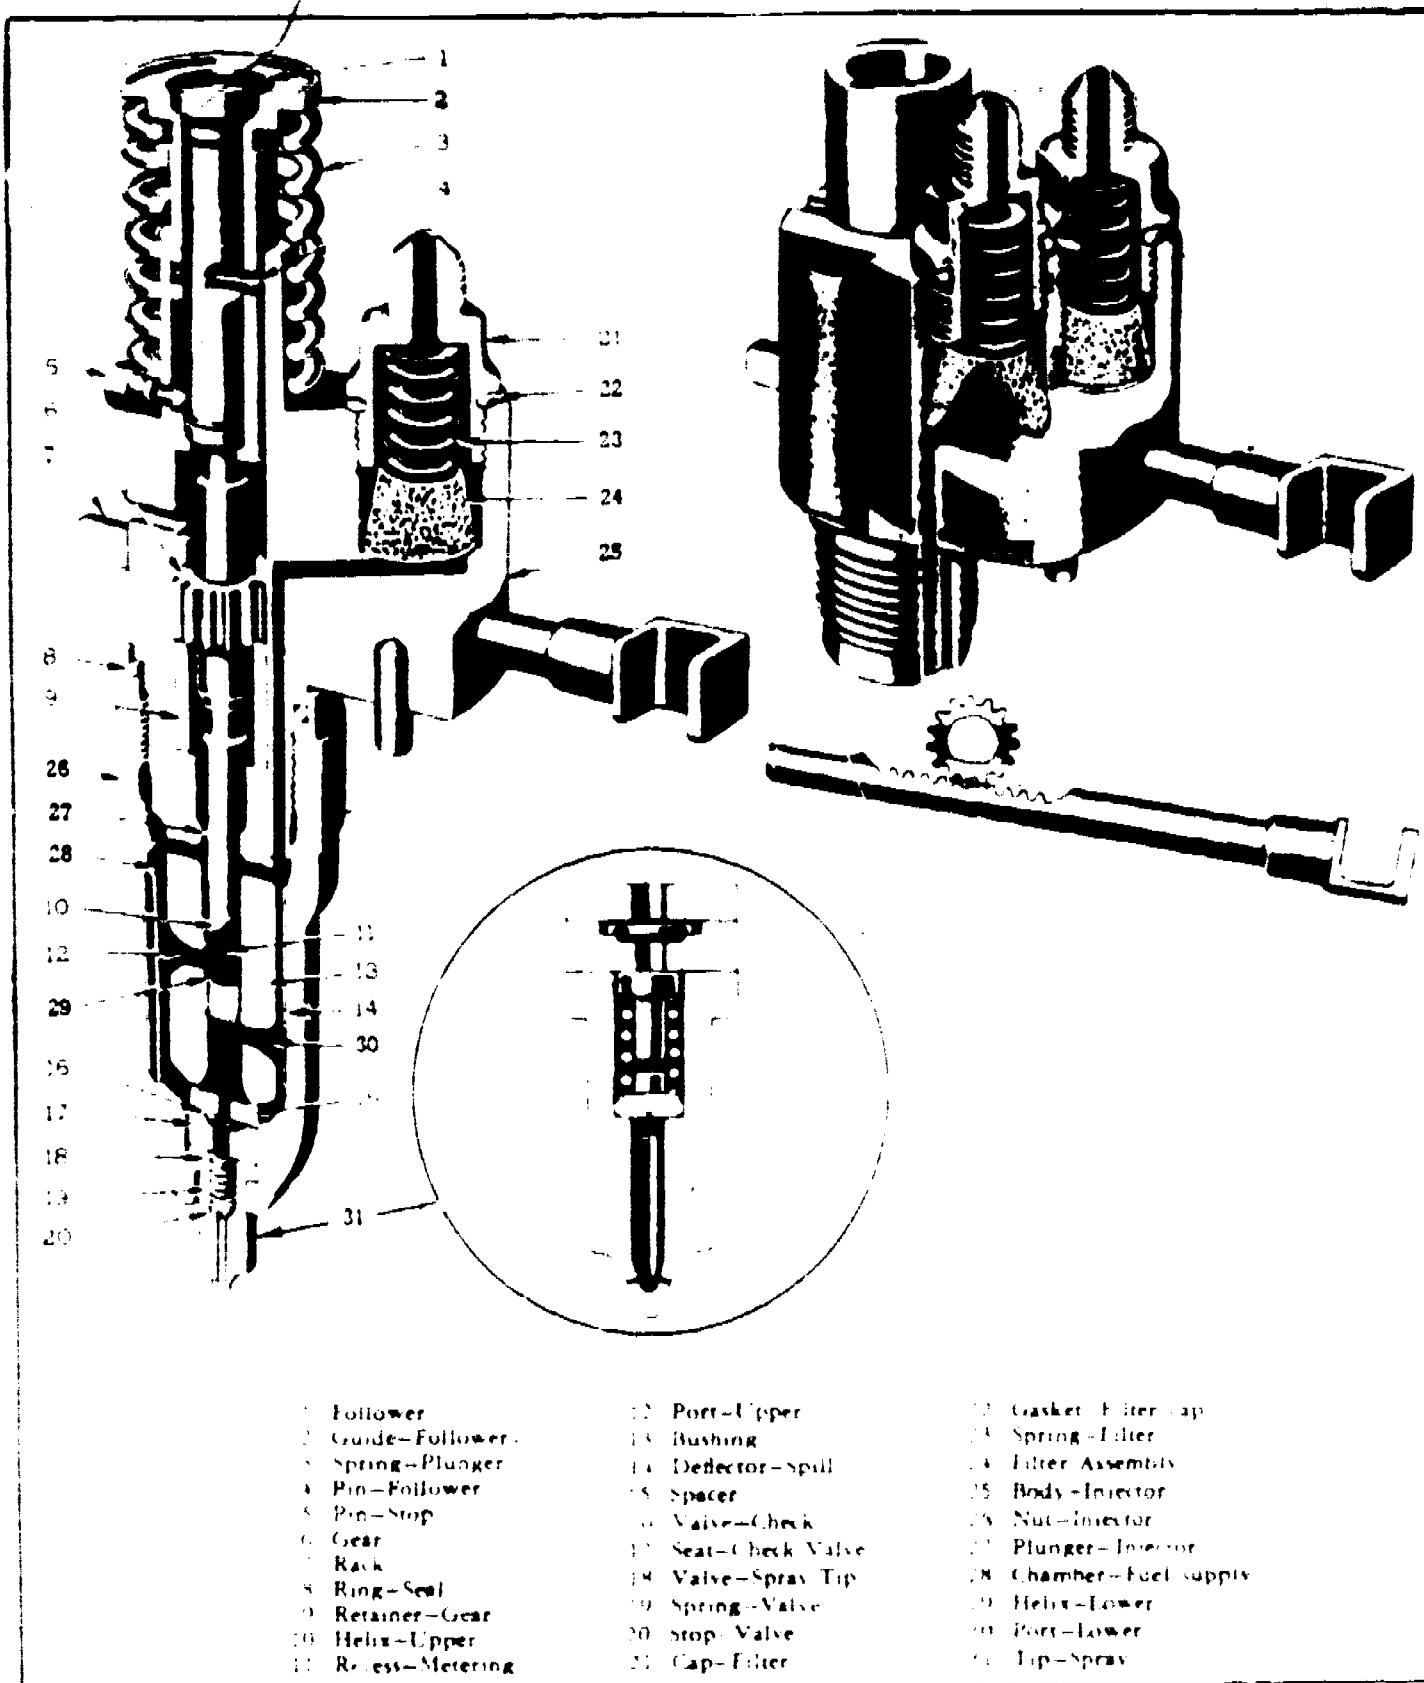
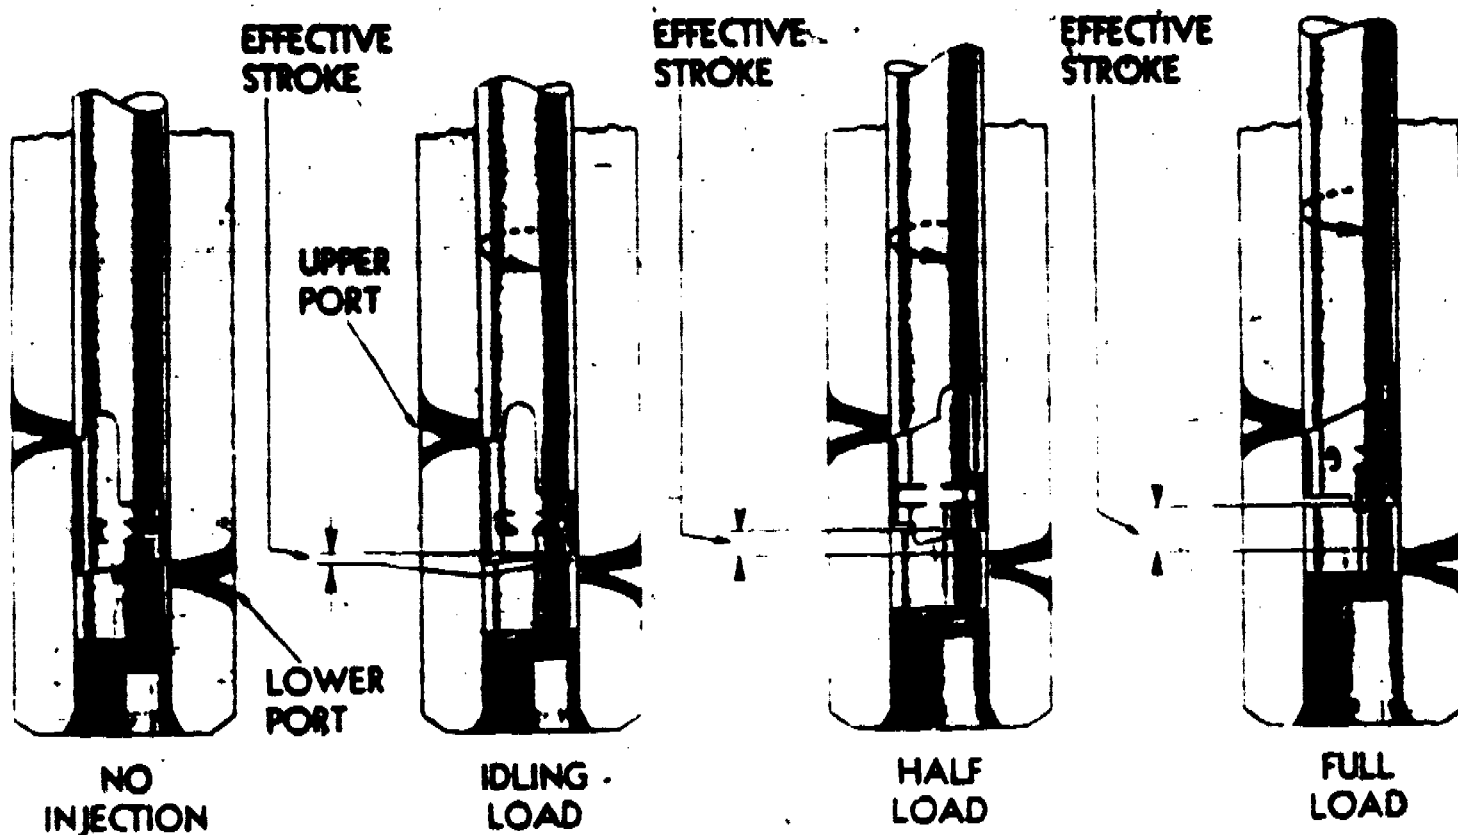

Figure 15. Cross Section of a CMC Injector.
Figure 16. Fuel Metering from FULL LOAD to NO LOAD Produced by Rotating Plunger With Control Rack.
Beneath each fuel line connector in the injector body are small filtering elements, figure 15. The elements are made of a porous material and as they are very hard to clean, they should be replaced with new ones if they become excessively dirty. If old elements are being reused they should be reinstalled in the same openings from which they were removed because fuel passes through the elements used on the inlet connections in the reverse direction from those used on the outlet connections. Small particles of dirt that may have lodged on the inner surface of the outlet filter may be washed into the injector if it is used on the inlet side.
As previously explained, the fuel pressure must be higher than that of the air charge in the combustion chamber so that fuel can be injected into the combustion chamber at the specified time. Besides injecting fuel into the combustion chamber at the specified time, some means must be provided so that only a certain amount of fuel is injected at this time. This fuel also must be atomized for proper burning when it is injected into the combustion chamber. The unit fuel injector combines in a single unit all the parts necessary to perform the above functions. Thus, the fuel injector injects the fuel at the correct time, meters the fuel, creates a high fuel pressure, and atomizes the fuel. This provides a complete and independent injection system for each engine cylinder. The cross section of the injector, figure 15, shows the various parts.
The fuel oil is supplied to the injector at a pressure of approximately 40 psi. The fuel fills the annular supply chamber between the bushing and the spill deflector, figure 15, item 28. The injector plunger, operated by a rocker arm which is actuated by the camshaft, operates up and down in this bushing. The bore of this bushing is connected to the fuel supply in the annular chamber by two funnel-shaped ports, figure 15. In addition to the reciprocating motion,
the plunger can be rotated in operation around its axis. This is accomplished by the gear, figure 15, which is in mesh with the rack. An upper and lower helix are machined into the lower end of the plunger. These helixes, figures 16 and 17, are for metering purposes. The relation of these helixes to the two ports, changes with relation of the plunger. Changing the position of the helixes by rotation of the plunger, retards or advances the closing of the ports which is the same as changing the beginning and ending of injection or the effective stroke. The longer the effective stroke, the more fuel injected.
Note: Reference should be made to figures 16 and 17 for positions of the plunger during fuel metering and injector operation.
PLUNGER ON DOWNWARD TRAVEL. As the plunger moves downward, the fuel in the high-pressure cylinder or bushing is first displaced through the ports back to the supply chamber until the lower edge of the plunger closes the lower port. When this takes place, the remaining fuel is then forced upward through the central passage of the plunger into the recess between the two helixes. From this point the fuel can flow back into the supply chamber until the upper helix closes the upper port. The metered amount of fuel is then forced through the valve assembly, check valve, and against the spray tip valve, figure 15. When sufficient fuel pressure is built up, the spray tip valve is lifted off its seat and the fuel is forced through small orifices in the spray tip and atomized in the combustion chamber.